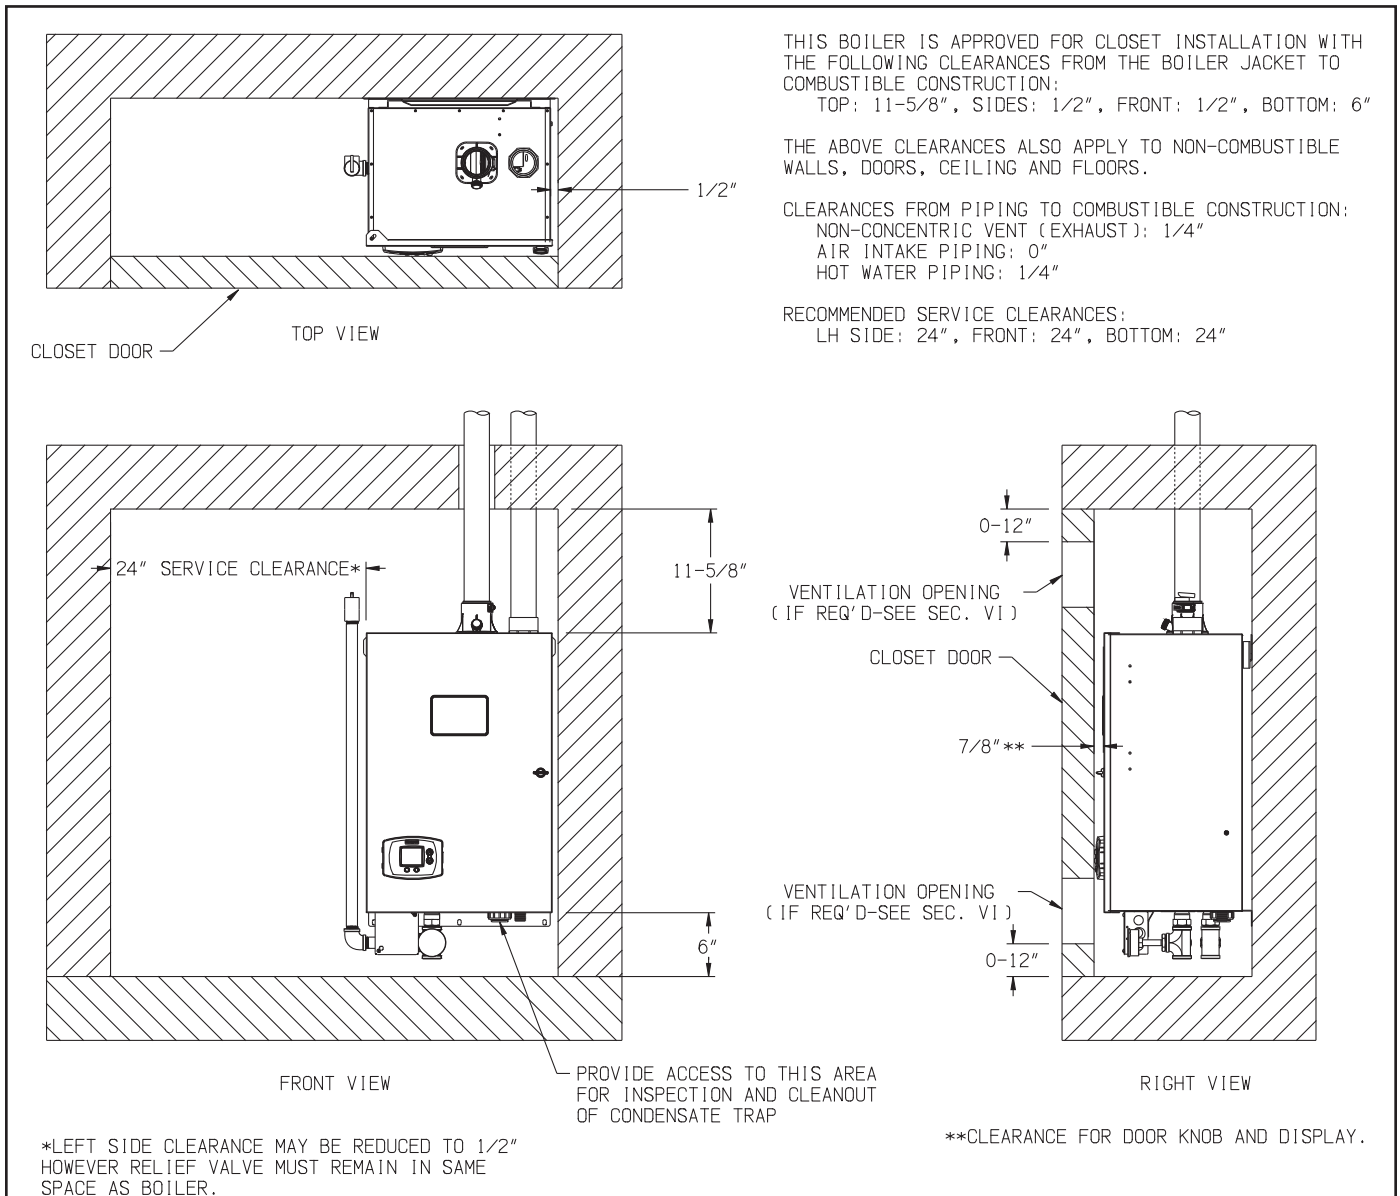

Figure 4.1: Minimum Clearances To Combustible Construction
- 1) Observe the minimum clearances shown in Figure 4.1. These clearances apply to combustible construction as well as non-combustible walls, floors, ceilings and doors.
- 2) Note the recommended service clearances in Figure 4.1. These service clearances are recommended, but may be reduced to the combustible clearances provided:
- If the recommended service clearances shown in Figure 4.1 can be maintained (with all doors to the room closed), no ventilation openings are required for this boiler.